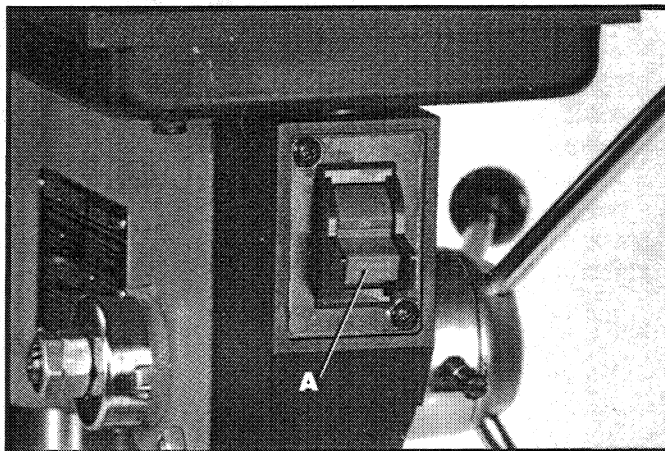

Fig. 27
The switch (A) Fig. 27, is located on the front of the drill press head. To turn the drill press "ON" move the switch to the up position. To turn the drill press "OFF" move the switch to the down position.